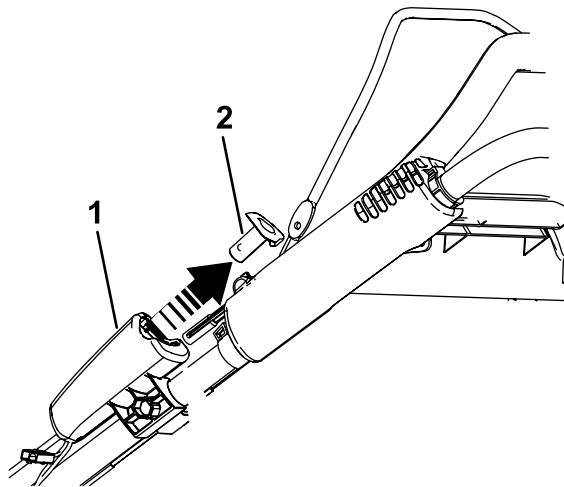

Figure 23
1. Remove the electric-start button (if equipped); refer to Figure 23.